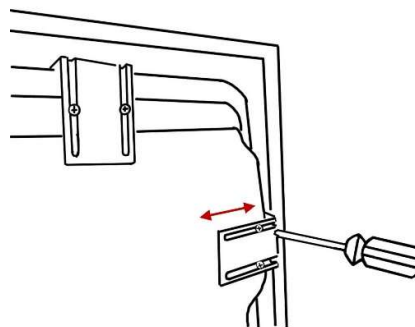
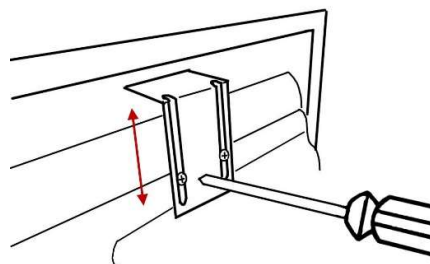

Figure 1.9 Left, Right side
Figure 1.10 Back side
- Holding panels are placed on the bottom side on the left, right (Figure 1.9) and back (Figure 1.10) position. Make sure that all the screws are secured back firmly.